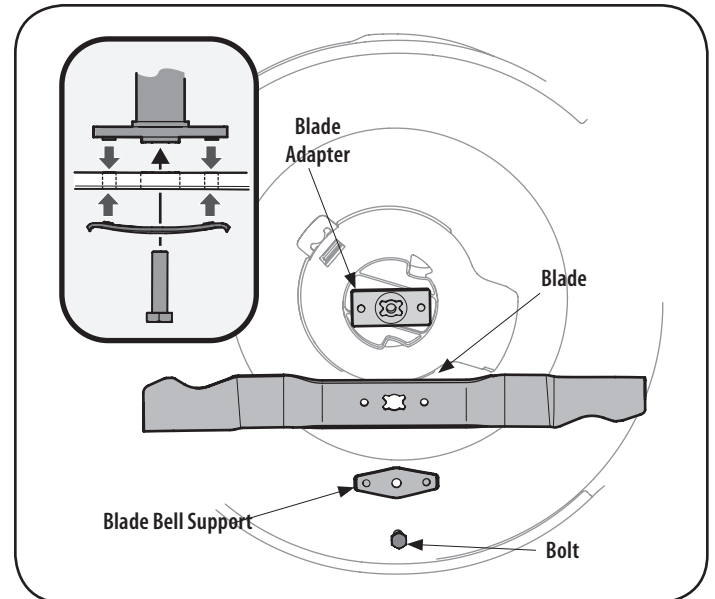

Figure 21
3. Remove the bolt and the blade bell support which hold the blade and the blade adapter to the engine crankshaft. See Figure 21.
6. Lubricate the engine crankshaft and the inner surface of the blade adapter with light oil. Slide the blade adapter onto the engine crankshaft. Place the blade on the adapter such that the side of the blade marked "Grass Side" (or with part number) faces the ground when the mower is in the operating position. Make sure that the blade is aligned and seated on the blade adapter flanges. See Figure 21 inset.